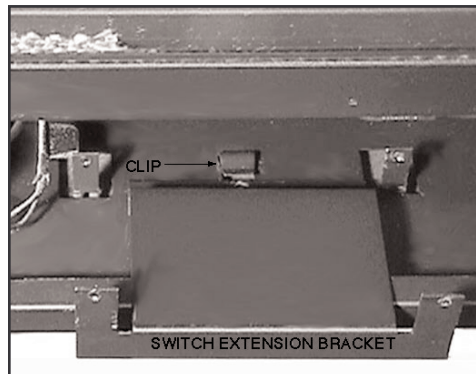

Figure 2BF
5. Place Switch Extension Bracket under the Clip located on the Bottom Pan and slide the Bracket back until it is flush with the front of the Pan. See Figure 2BF.